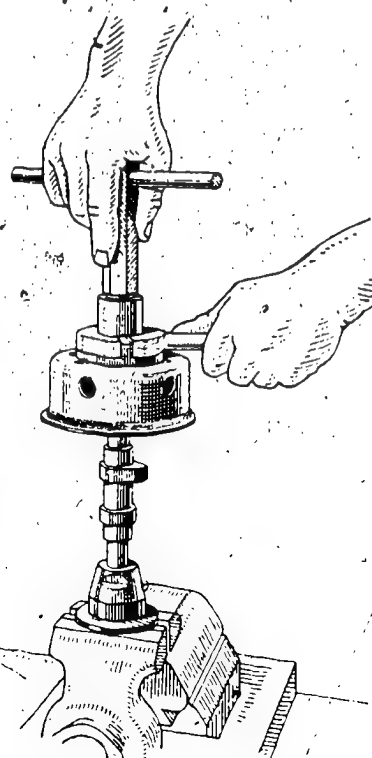

Fig. 12 Press drive flange down with thrust screw
8. Keep springs compressed and use socket wrench to turn thrust screw and press drive flange fully home (Fig. 12) until springs snap into position in driving pin locating bores. Springs which are not fully home can be manoeuvred into position with a screwdriver inserted through the holes of the inner casing.